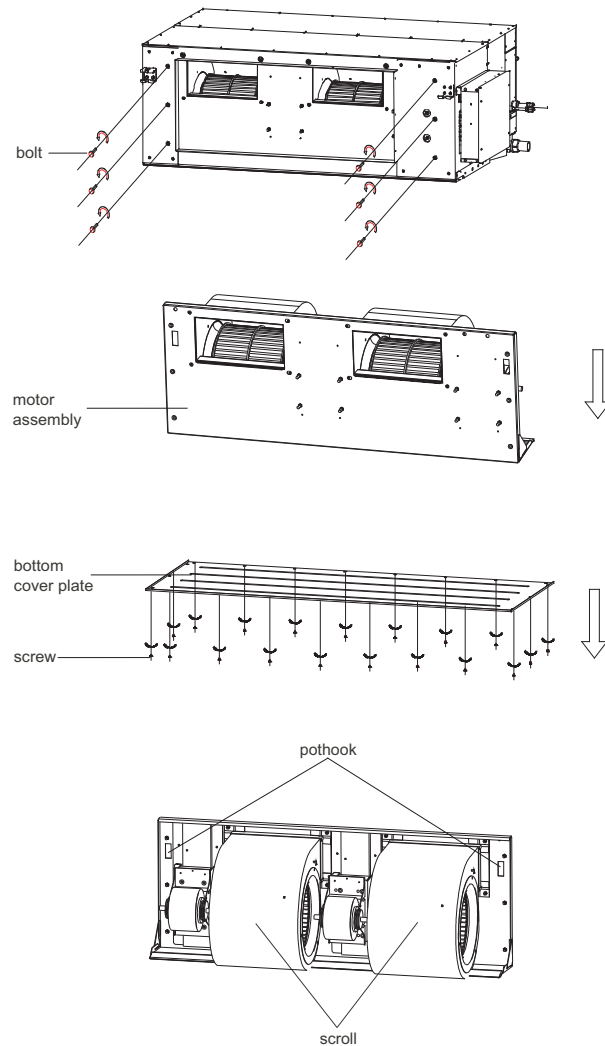

Fig. 43 —Fan disassembly (072-096)
1. Remove the bottom cover plate. See Fig. 43.